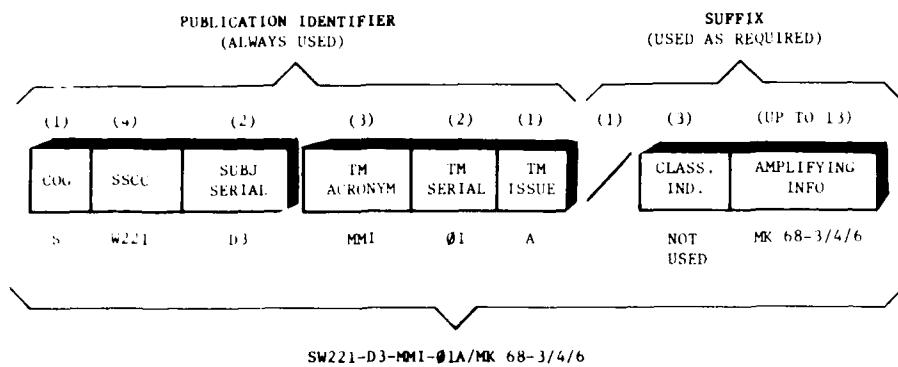

Figure 1-12. TMIN Example (NAVSEA, ORD)
4. Insert the derived alphanumeric codes into the proper TMINS format. See Figure 1-12.